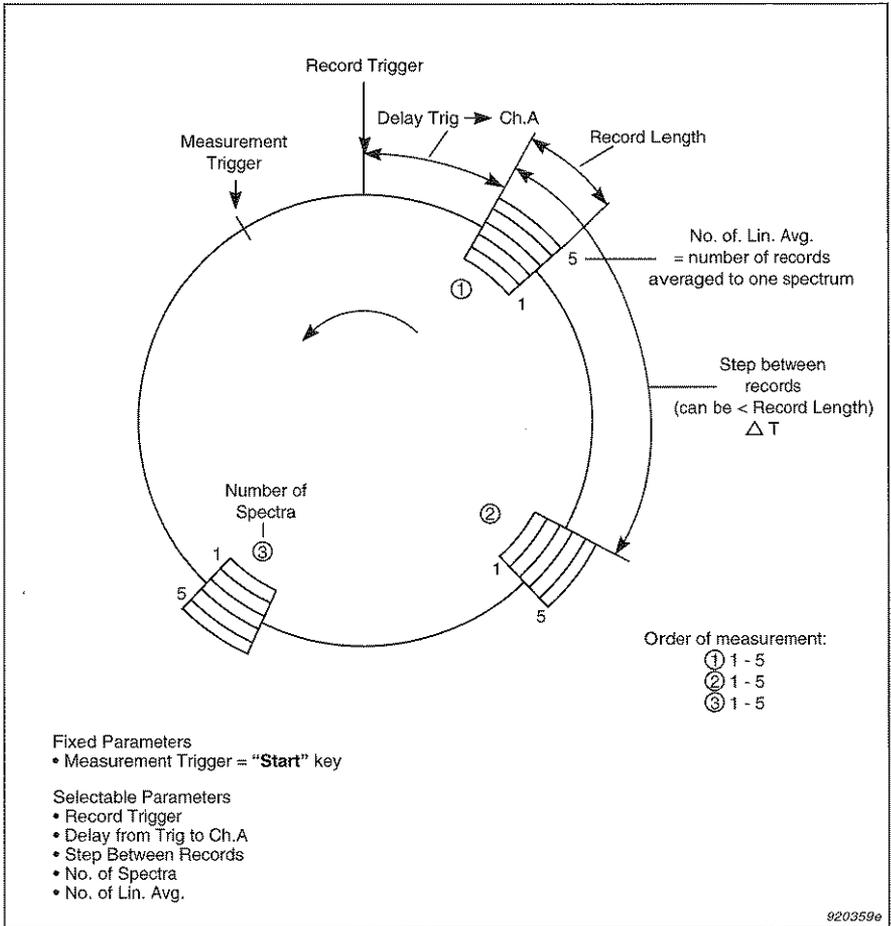

Fig. 5.11 Selectable parameters for data collection in Gated Multispectrum mode
Gated Multispectrum is intended for use in the investigation of the variation of measurement parameters as a function of position in a repetitive cycle. Fig. 5.11 illustrates the collection of a Gated Multispectrum. The figure applies for collection of spectra and shows only one channel.
Suppose, for example, that the analyzer is set up to measure a gated multispectrum on a machine. Five linear averages are made at each of three positions in a machine cycle (Fig. 5.11). When **Averaging Control "Start"** is pressed, the analyzer waits for the first Record Trigger. A Record Trigger is needed for each of the 15 spectra. First, five spectra are measured for position ① and these spectra are averaged into the first spectrum in the gated multispectrum. Then the analyzer steps to position
② and averages all the spectra there before stepping to position ③ to measure and average the final five spectra. The result of the operation is a gated multispectrum consisting of three spectra.